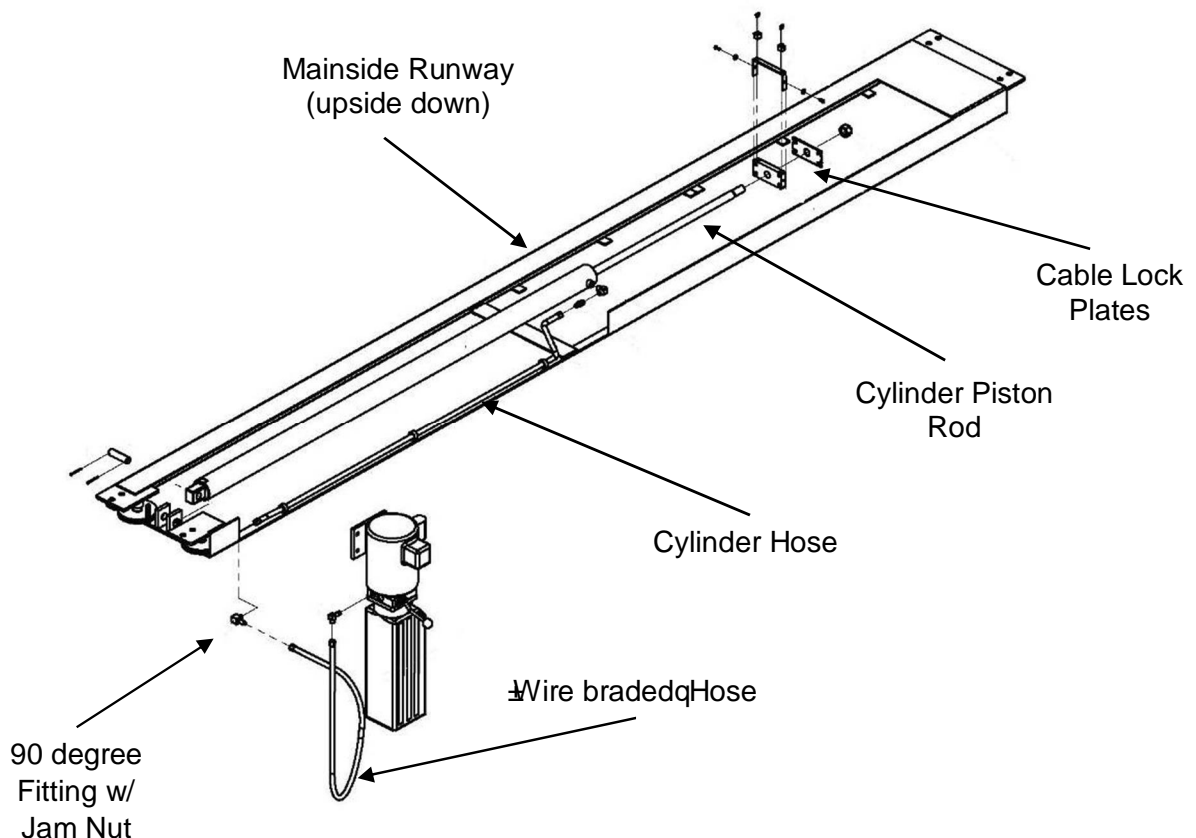

Fig. 2
2. While the Mainside Runway (Fig. 2) is upside down, find the end of the Hydraulic Hose that is already connected to the Cylinder. Locate hole on the side of the Mainside Runway (#1) and install the 90 degree Fitting (#61) securing to runway with Jam Nut. Also remove the plastic shipping ties securing the pre-installed Cables.
20. Install the ~~wire~~ wire braded+Hydraulic Hose (#43) to the Fitting on the side of the Main side Runway and attach the other end to the 90 degree Fitting on the Power Unit as shown in Fig.2.